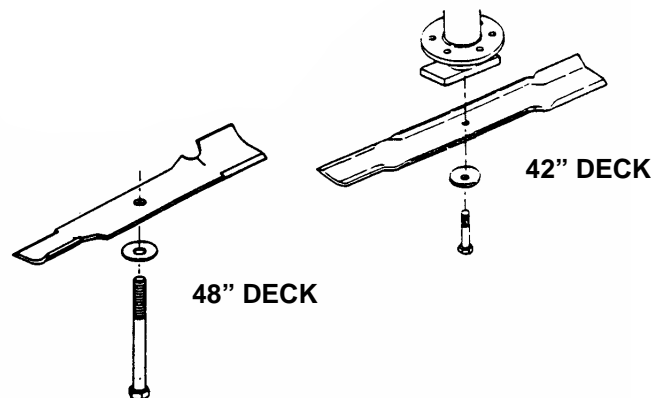

FIGURE 4.13
5. Remove blade(s). See Figure 4.13.
9. Reinstall blade. See Figure 4.13. Torque blade mounting bolts to recommended range of:
1. Remove blade(s). See Figure 4.13. Replace blade(s) if it shows signs of excessive wear or damage.